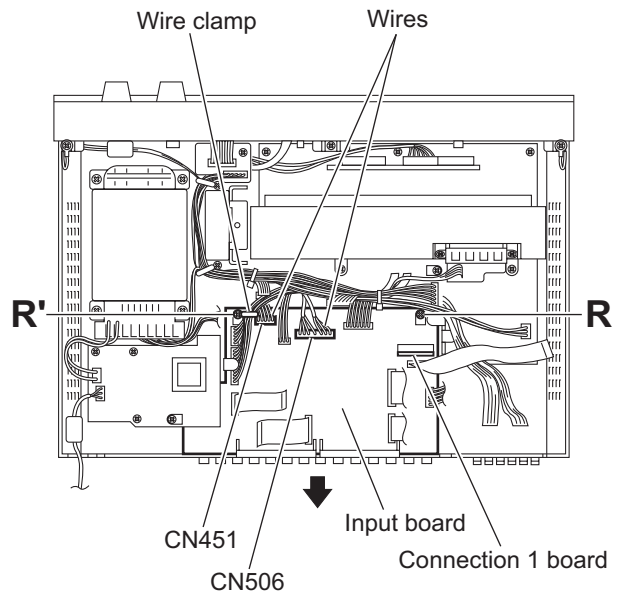

Fig.17
- From the top side of the main body, remove the tie bands bundling the wires. (See Fig.17.)
- Disconnect the wires from the connectors \(CN451, CN506\) on the input board. (See Fig.17.)
- Take out the input board from the main body in the direction of the arrow. (See Fig.17.)
Remove the connection 1 board on the input board as required. (See Fig.17.)